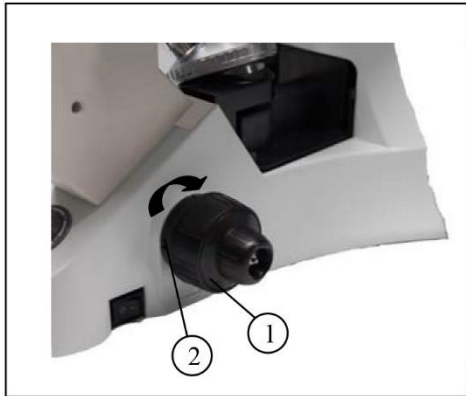

Figure 6
2.2.4. Installing the objective (Figure 6 and 7)